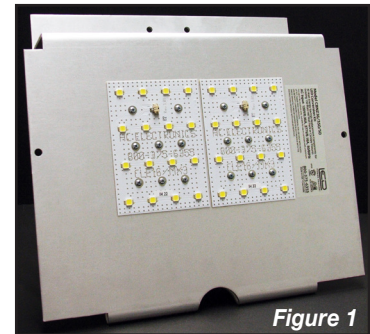

Figure 1
- 1 – Conversion Kit — see FIGURE 1